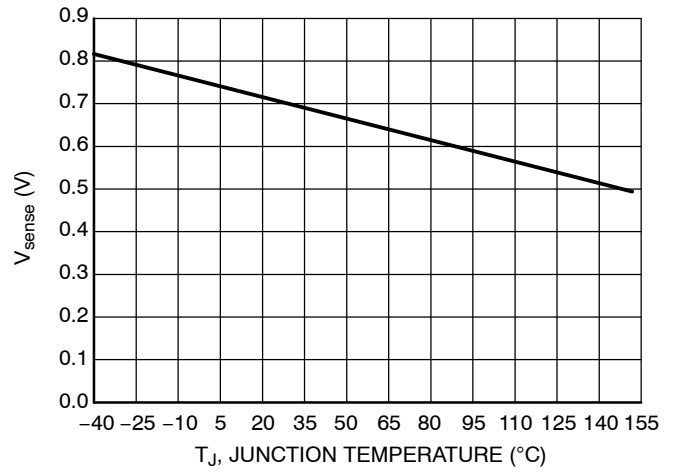

Figure 2.  $V_{sense}$  vs. Junction Temperature
- a.  $R_{ext} = V_{sense} \text{ (see Figure 2) } / I_{LED}$